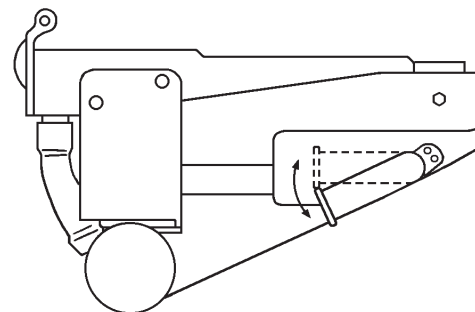

Fig. 1
- 4) Move the tank drain pipe to the drain position. See Fig. 1.